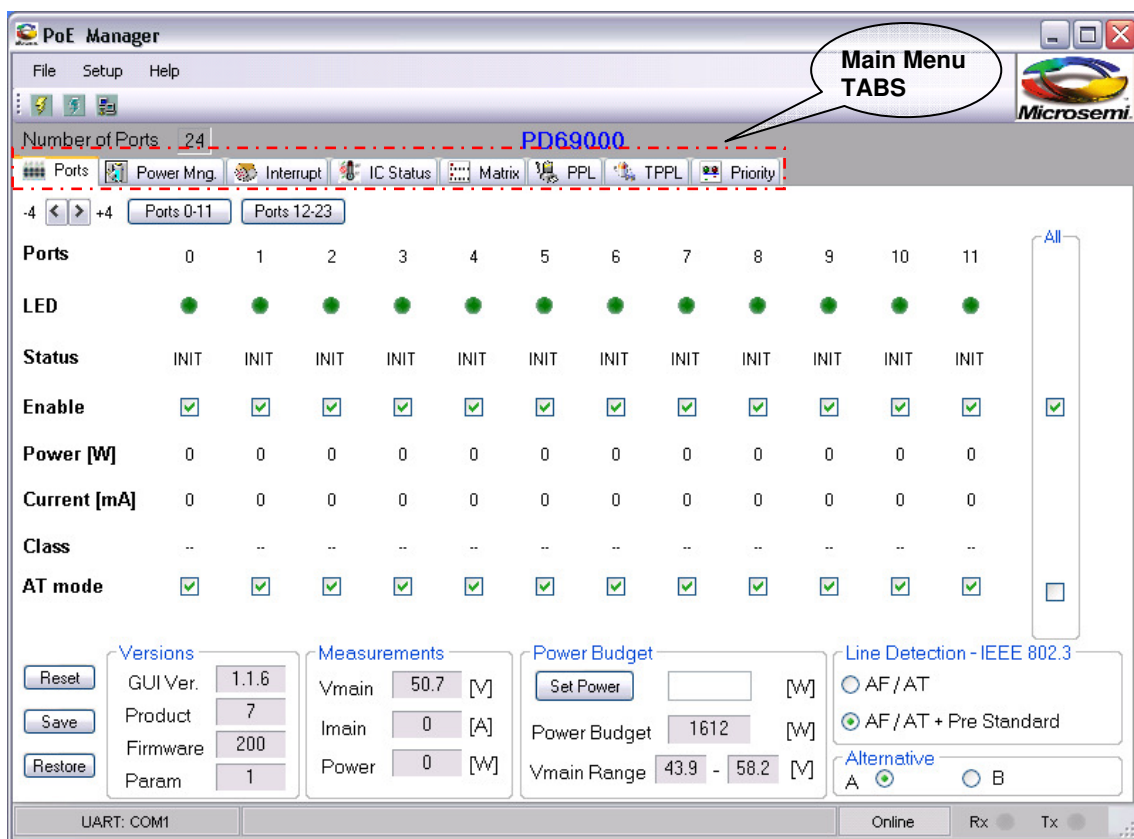

Figure 4-2: GUI Main Screen
- 2 Run the application by clicking on the  the Parameters initialization screen, followed by the *Opening Enhanced Mode* Main screen appears (see Figure 4-2), with the status bar displaying "**I²C**" + **Rate** or "**UART**" + **Com number**' and '**Online**' at the bottom of the screen:
The GUI Main screen (see Figure 4-2) appears when the Ports tab is selected. This screen comprises **Main Menu TABS** used to select the desired function, **Port Status Indicators**, indicating ports status, **Status and Port Enable checkboxes** used to enable port/s, **Power, Current, Class Measurements Field** displays measurements taken on the input power line such as: voltage, current and calculated power. The GUI's main screen includes buttons, indicators and combo-boxes: